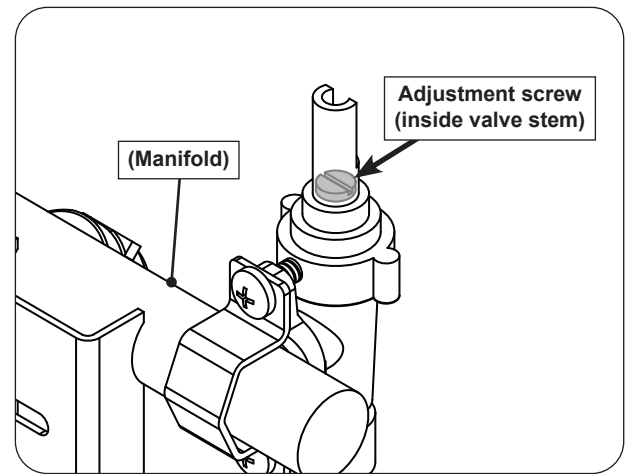

Fig. 33-1 Valve adjustment screw location
3. Locate the FLATHEAD adjustment screw found inside the valve stem (see Fig. 33-1).